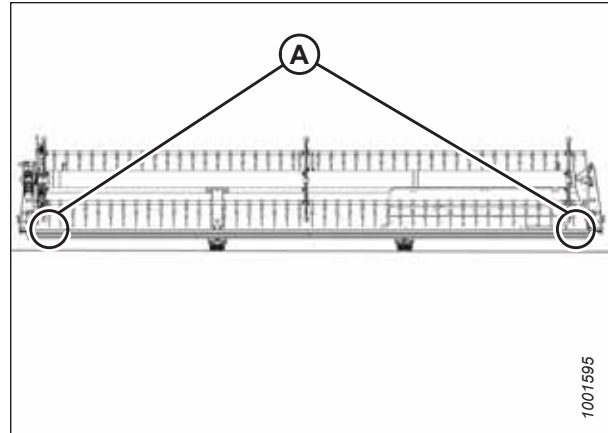

Figure 4.279: FlexDraper® Measurement Locations – Single Reel
- Single-reel headers: Figure 4.279, page 630